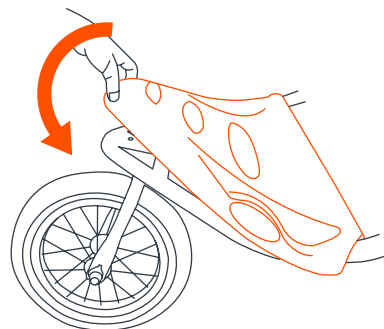

Fig. 5c
- Line up the front fender and press onto the front frame assembly (Fig. 5c).